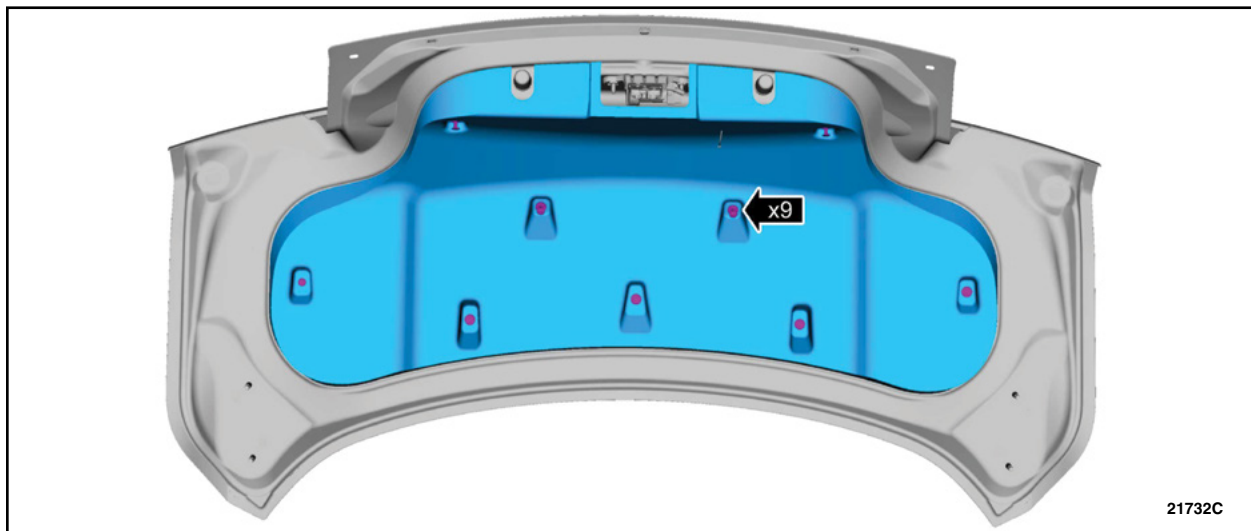

FIGURE 10
20. Remove the retainers and remove the luggage compartment lid trim panel. See Figure 10.